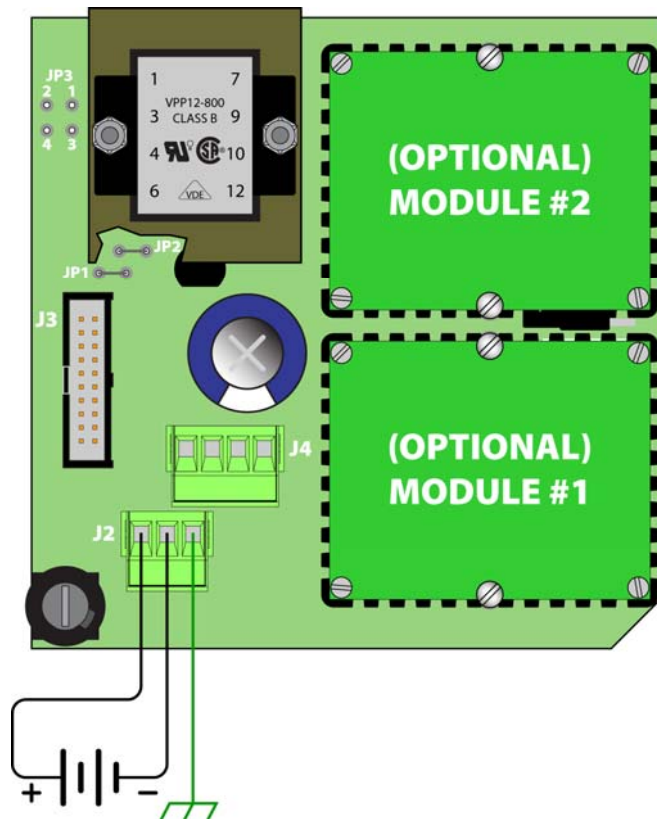

Figure 1.9
2. Connect the DC power source as illustrated in the schematic in **Figure 1.9**. Wire up to 14 AWG can be accommodated in the MFX terminal blocks.